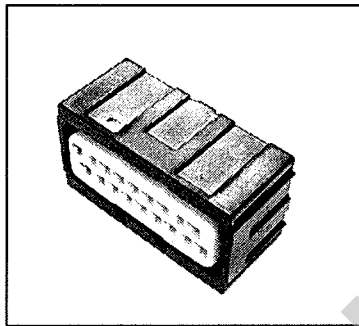

Figure 18:
- a) First assure that the orientation of the female terminal is correct and that the front holder is in pre-set position (figure 18). If this is not the case, please read section 5.1.2 to move the front holder from set to pre-set position.